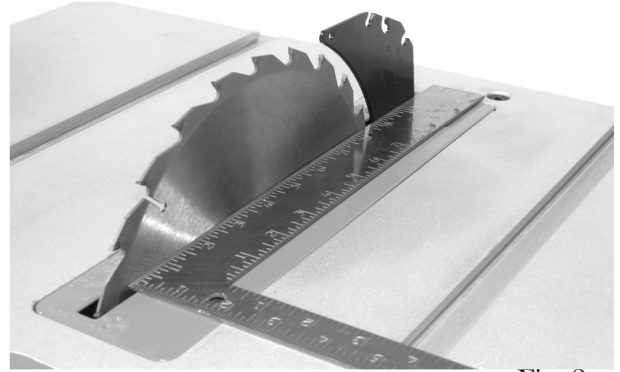

Fig. 8
1. Using a straight edge (Fig 8), check if the riving knife is aligned with the blade.